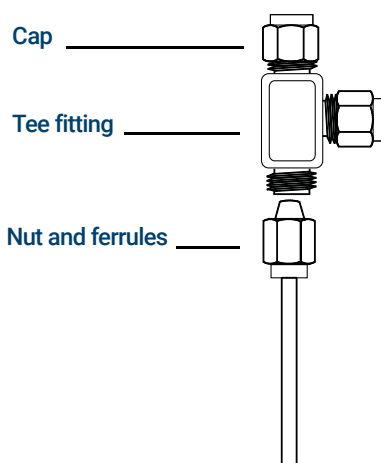

Figure 58. Swagelok tee
- 1 Cut the tubing where you want to install the Tee. Connect the tubing and Tee with a Swagelok fitting. See Figure 58.